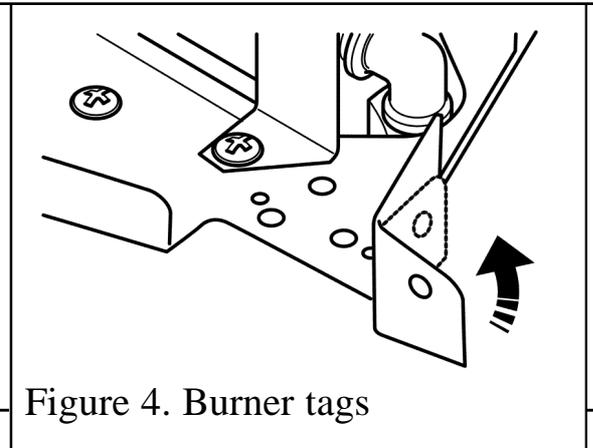

Figure 4. Burner tags
- The two tags at the side of the burner can be folded against the side of the burner tray. This may be required for installations where the width of the fireplace opening is restricted (See figure 4)